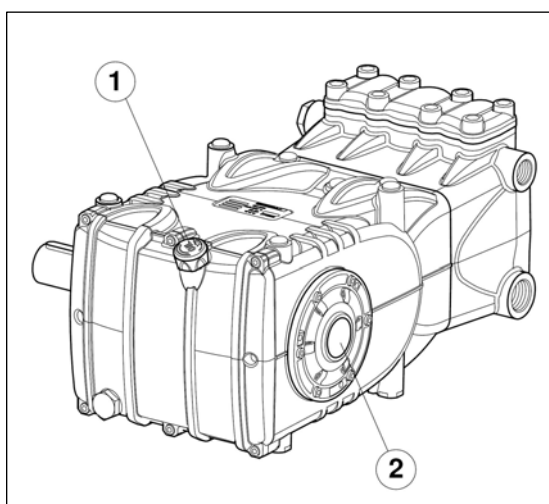

fig. 14
5. Oil in the pump casing is at level, verified with a dipstick (position 1 fig. 14).
and exceptionally with a level indicator (position 2 fig. 14).